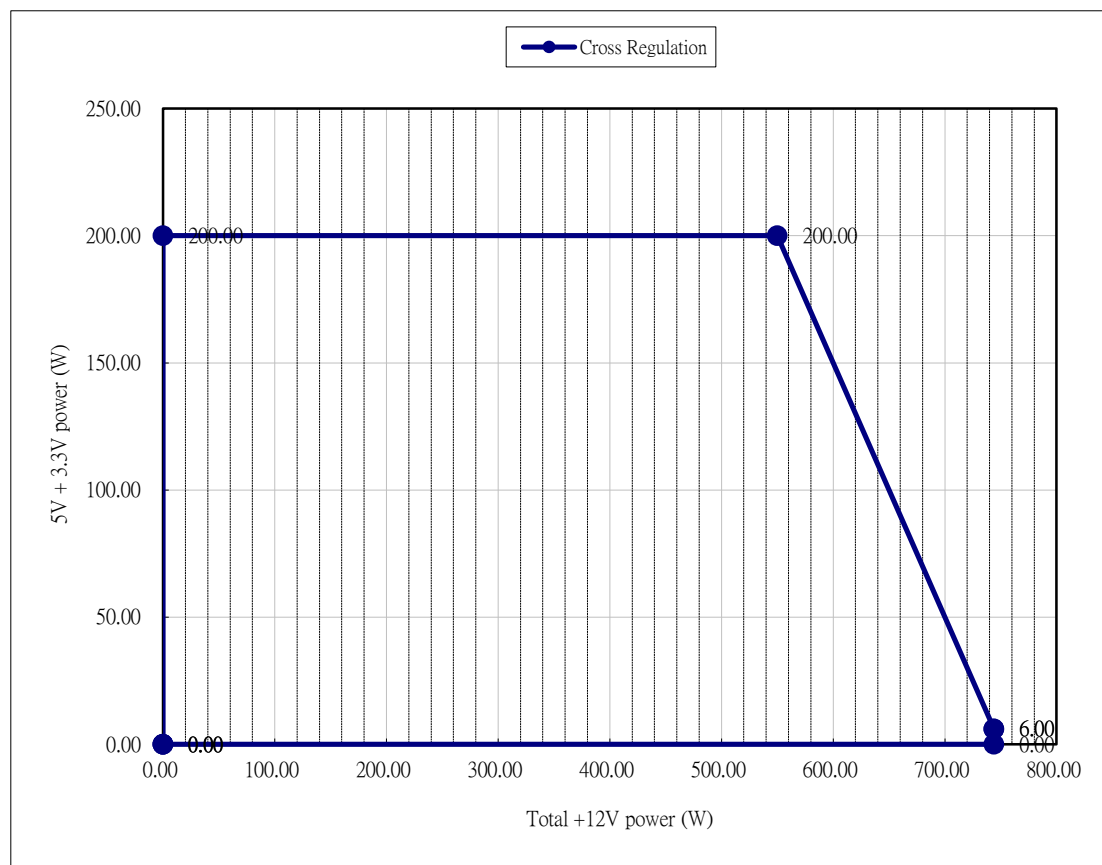

Figure 1
- 4.+3.3V, +5V and +12V DC output voltage should be within Figure 1 cross loading range to meet regulation.
- 6.Ripple and Noise measuring with an oscilloscope with 20 MHz bandwidth in Figure 1 cross loading range. Output should be bypassed at the connector with a 0.1uF ceramic disk capacitor and a 10uF electrolytic capacitor to simulate system load. The length of ground wire on probe should not longer than 40mm, if a Non - differential type of scope was used.
The +5V & +3.3V combined load and +12VDC load shall remain within the defined in section 2.0 over cross load combinations shown Figure 1: